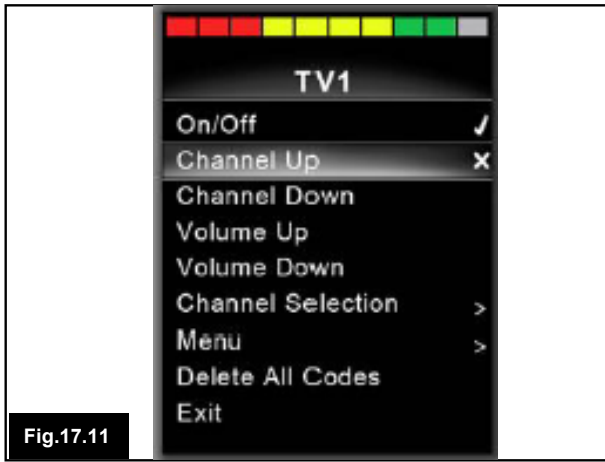

Fig.17.11
17.4.2 Enabling and Disabling IR Codes (Fig 17.11)